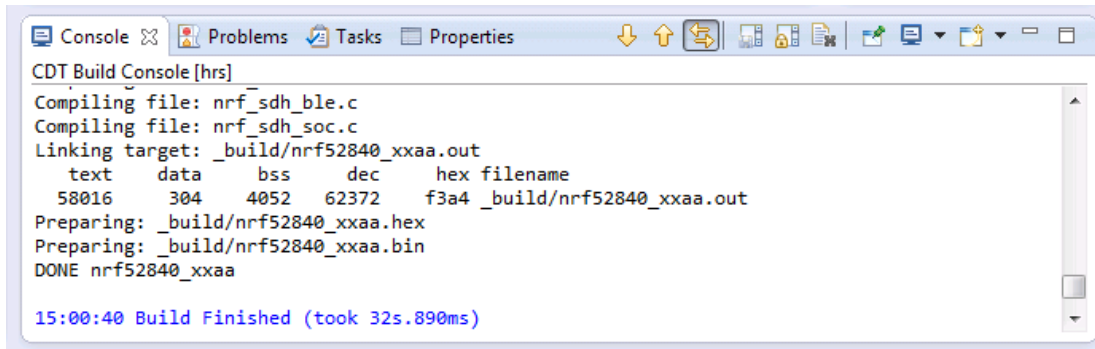

Figure 22: Building the HRS example
14. Once the project is built, the hex and binary files are generated as shown in the figure below (Figure 22).